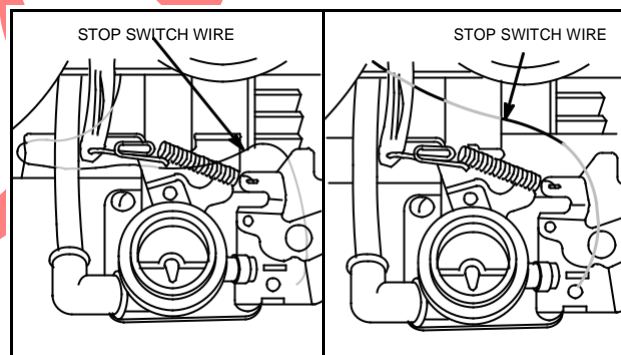

Fig. 250 - STOP SWITCH WIRES
- Install mounting bolts. Fig. 250 shows routings of stop switch wires.